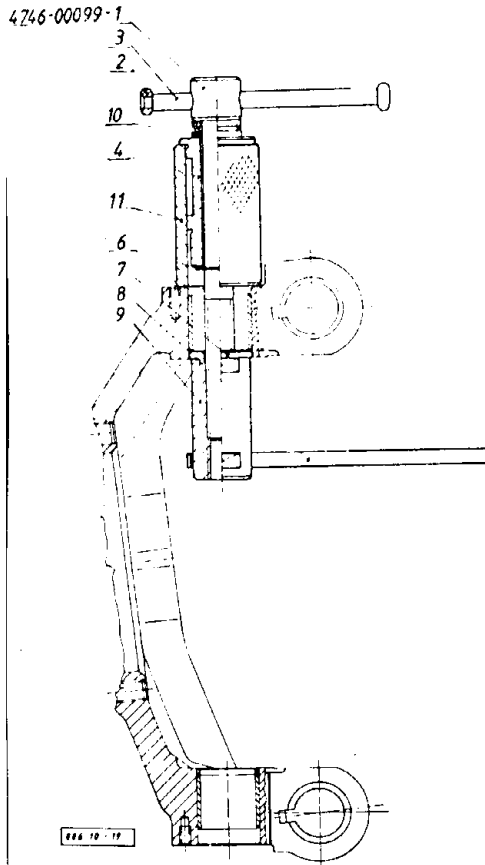

Fig. 1.: PULLING OUT THE KNUCKLE PIN BUSHING
By means of puller arranged from items shown pull out the knuckle pin bushings (52) on both sides (see Fig. 1.).